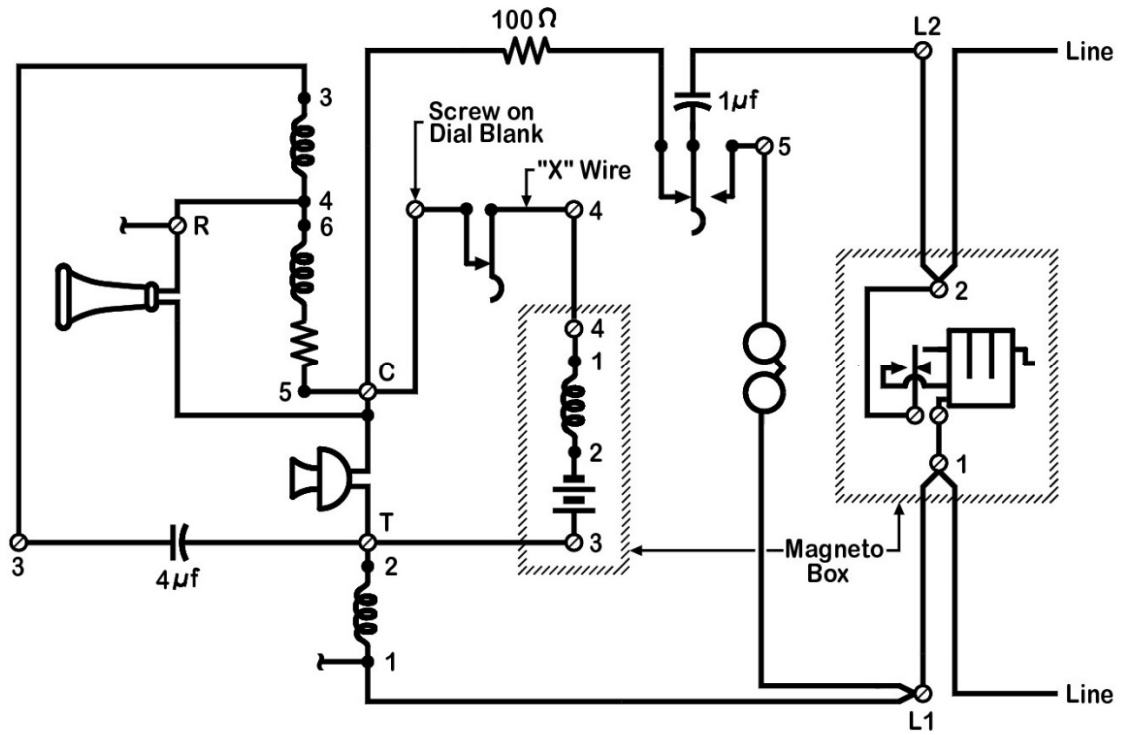

Fig. 18-19 Improved
- In Fig. 18-19, improved terminal markings are included in the Magneto Box (modified figure provided below).